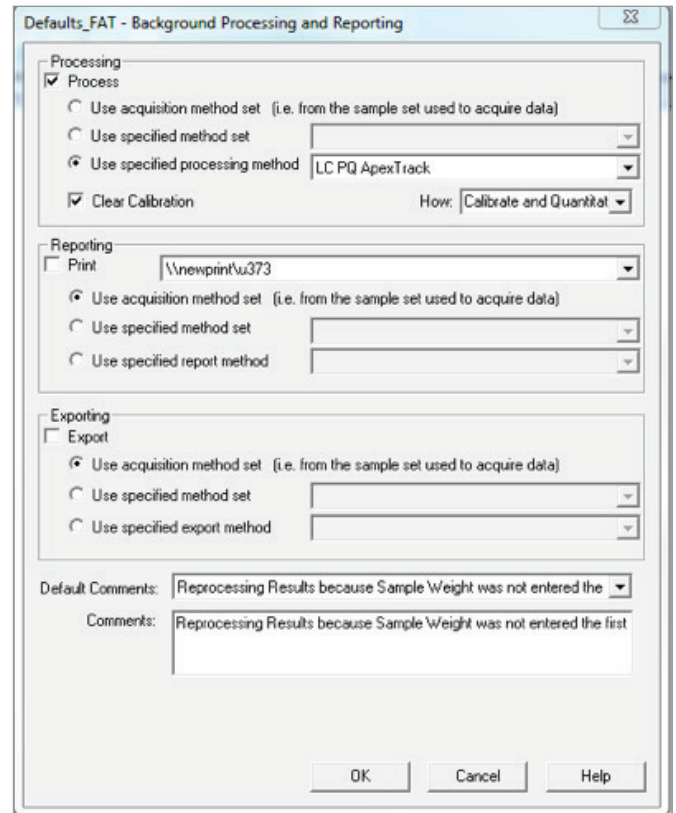

Figure 9. Background Processing and Reporting dialogue box showing the reason 'why' in the Comments box.
- For example, when an analyst processes a Sample Set, the selection of the reason why is done in the Background Processing and Reporting dialogue box (Figure 9).